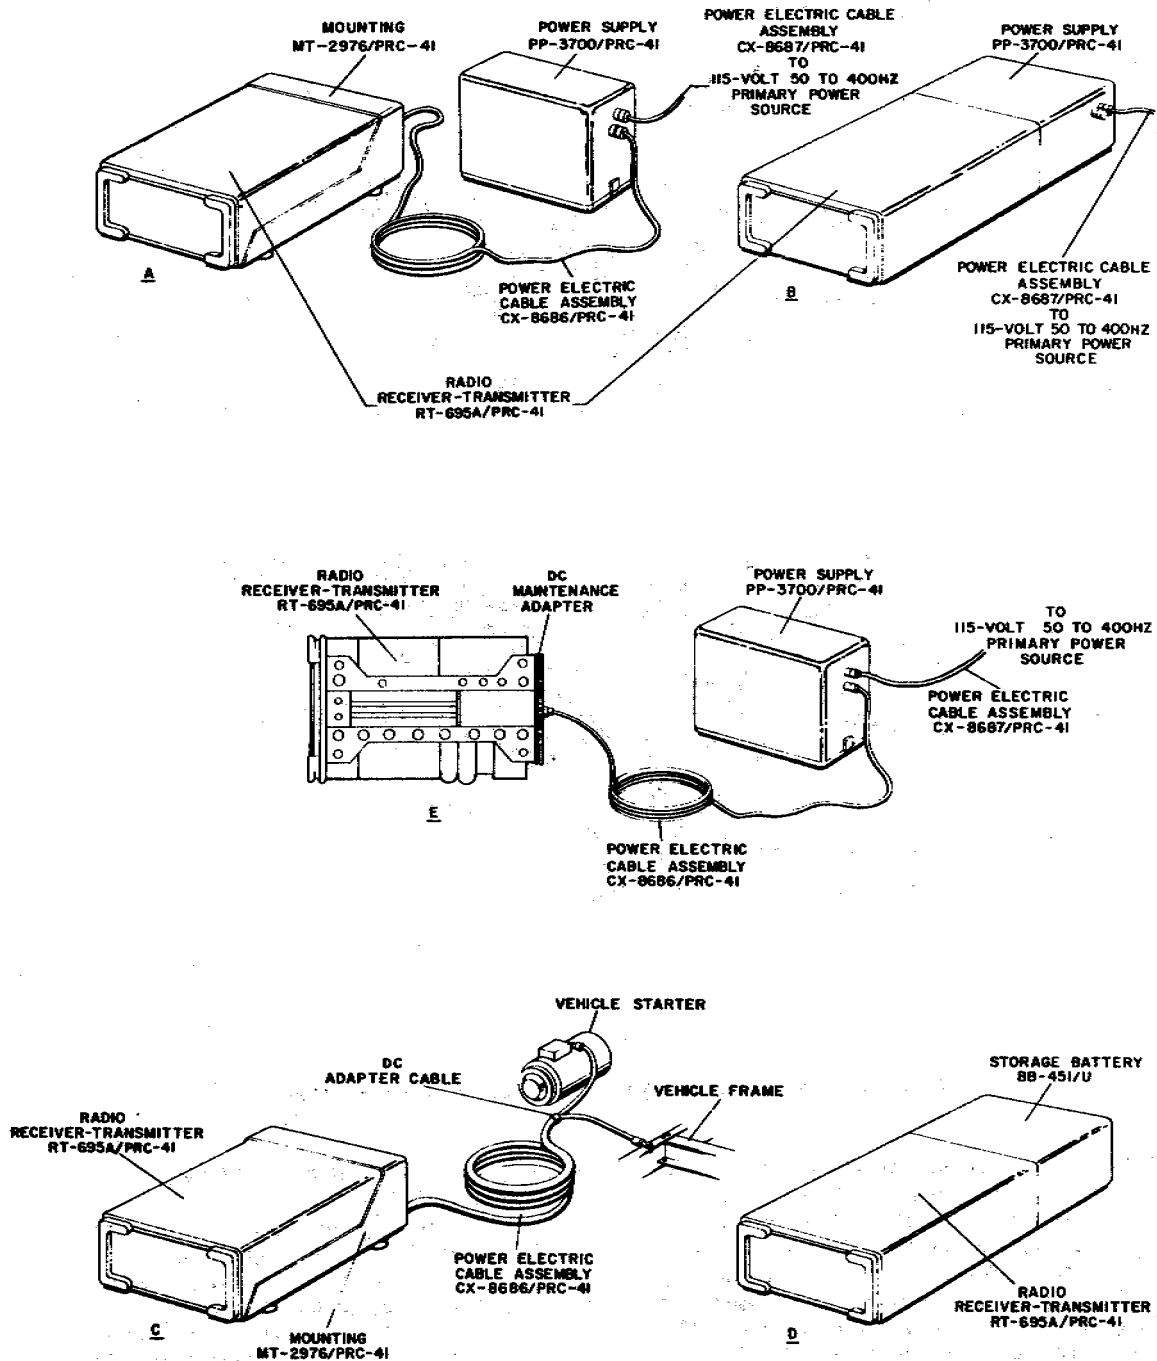

Figure 2-3. Source of Power Configurations of Radio Receiver-Transmitter RT-695A/PRC-41
a. **POWER PROVISIONS** - Radio Receiver Transmitter RT-695A/PRC-41 requires a nominal 26.5-volt dc primary source. This supply may be provided by use of Power Supply PP-3700/PRC-41, Storage Battery BB-451/U, or by an aircraft or vehicular battery supply. Figure 2-3 illustrates the various configurations which may be used to supply the required dc primary power to Radio Receiver Transmitter RT-695A/PRC-41.
Primary power for Radio Receiver-Transmitter RT-695A/PRC-41 may be provided by a separately located Power Supply PP-3700/PRC-41. Refer to A, figure 2-3. In this configuration, Power Electric Cable Assembly CX-8686/PRC-41 is used to connect the 26.5-volt dc output from the PP-3700/PRC-41 to Mounting MT-2976/PRC-41 and to the RT-695A/PRC-41. Power Electric Cable Assembly CX-8687/PRC-41 is used to connect the 115-volt ac primary power to Power Supply PP-3700/PRC-41.
Primary power for Radio Receiver-Transmitter RT-695A/PRC-41 may also be provided by Power Supply PP-3700/PRC-41 attached directly to the RT-695A/PRC-41 as shown in B, figure 2-3. This configuration uses Power Electric Cable Assembly CX-8687/PRC-41 to connect the primary 115-volt ac supply to Power Supply PP-3700/PRC-41. For aircraft or vehicular operation, Radio Receiver-Transmitter RT-695A/PRC-41 may be mounted on Mounting MT-2976/PRC-41 and connected to the aircraft or vehicular battery supply through Power Electric Cable Assembly CX-8686/PRC-41 and the dc adapter cable. Refer to C, figure 2-3. For man-pack operation, Storage Battery BB-451/U is attached directly to the rear of Radio Receiver-Transmitter RT-695A/PRC-41 to provide the required dc primary supply voltage. Refer to D, figure 2-3. For operation of Radio Receiver Transmitter RT-695A/PRC-41 with its case removed, the dc maintenance adapter must be secured to the rear of the RT-695A/PRC-41; and Power Electric Cable Assembly CX-8686/PRC-41 must be connected between the dc maintenance adapter and Power Supply PP-3700/PRC-41. The 115-volt ac primary supply is then connected through Power Electric Cable Assembly CX-8687/PRC-41 to Power Supply PP-3700/PRC-41. Refer to E, figure 2-3.
(1) MOUNTING AND POWER CONSIDERATIONS. - When Radio Receiver-Transmitter RT-695A/PRC-41 is used in a vehicular installation, it is mounted on Mounting MT-2976/PRC-41 and supplied power through Power Electric Cable Assembly CX-8686/PRC-41 and the dc adapter cable from the vehicle battery supply (C, figure 2-3). Refer to figures 2-13 and 2-16 for outline and mounting dimensions when fastening Mounting MT-2976/PRC-41 to a vehicle. When the RT-695A/PRC-41 is used in an aircraft, it is mounted in the same way as for a vehicular installation. Power for an aircraft installation is supplied by Power Supply PP-3700/PRC-41 which may be located at some remote location in the aircraft. Power Supply PP-3700/PRC-41 clamps to Mounting MT-2977/PRC-41. Mounting MT-2977/PRC-41 must be secured to the aircraft frame. Refer to figures 2-14 and 2-17 for outline and mounting dimensions. Power Electric Cable Assembly CX-8687/PRC-41 connects Power Supply PP-3700/PRC-41 to the 115-volt, 50- to 400-Hz primary aircraft supply. Power Electric Cable Assembly CX-8686/PRC-41 is used to connect Power Supply PP-3700/PRC-41 to Mounting MT-2976/PRC-41 to supply power to the RT-695A/PRC-41.